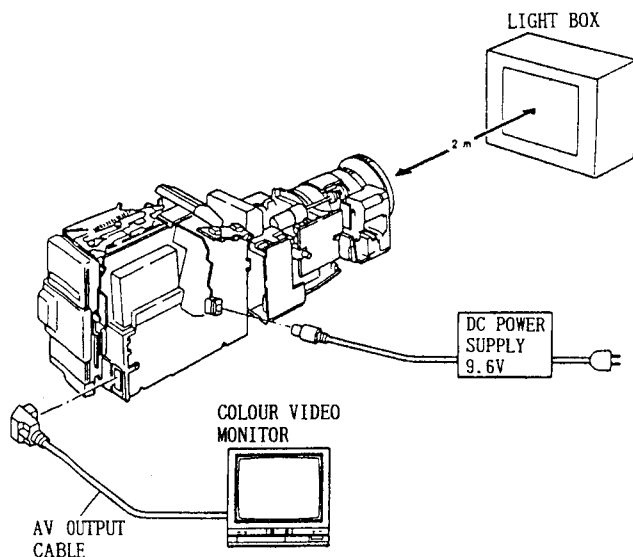

Fig. 4-1
- 2) Connect this unit, a power supply and a colour video monitor as shown in Fig. 4-1.